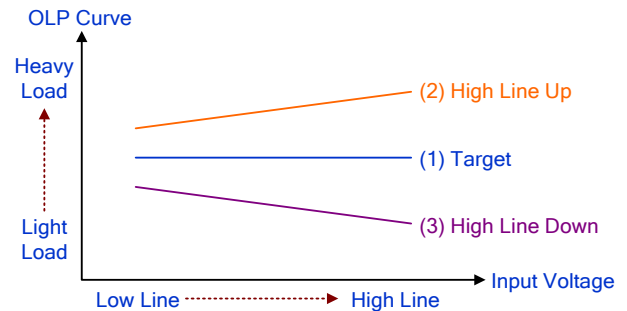

Figure 2. Curve Chart of OLP
In the beginning of propagation delay time compensation function setting, designers could set R_{PDC} = 470Ω, and C_{RC} = 100pF. In Figure 2, the ideal output current should be the same as curve (1). No matter under high line or low line, the output current keeps the same. However, the propagation delay time varies OLP curve under different input voltages according to different designs of transformer inductance, parasitic capacitance of MOSFET, series resistance on the GATE of MOSFET. If the OLP curve is like curve (2), designers should increase the resistance of R_{PDC}; if the OLP curve is like curve (3), designers should increase the capacitance of C_{RC}. Designers optimize the OLP curve through propagation delay time compensation to keep the same output current under different input voltages.